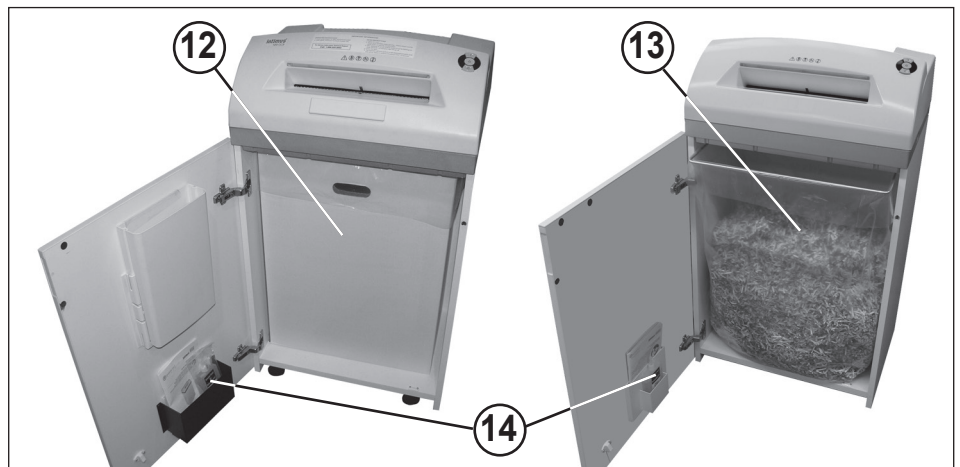

Fig. 4
12 = Receptacle (Fig. 4)
13 = Paper collection bag (Fig. 4)
14 = Oil reservoir (Fig. 4)
EMPTYING THE RECEPTACLE / PAPER COLLECTION BAG / (Fig. 4):
Cross cut cutters must be oiled after a specific operating time. If the control display (7) comes on proceed as follows: Open the door. The control display (8) comes on and the reverse button (4) LED display (4) as well as the control display (7) flashes. Remove the oil reservoir (14) (Fig. 4) from the holder in the door and close the door again.